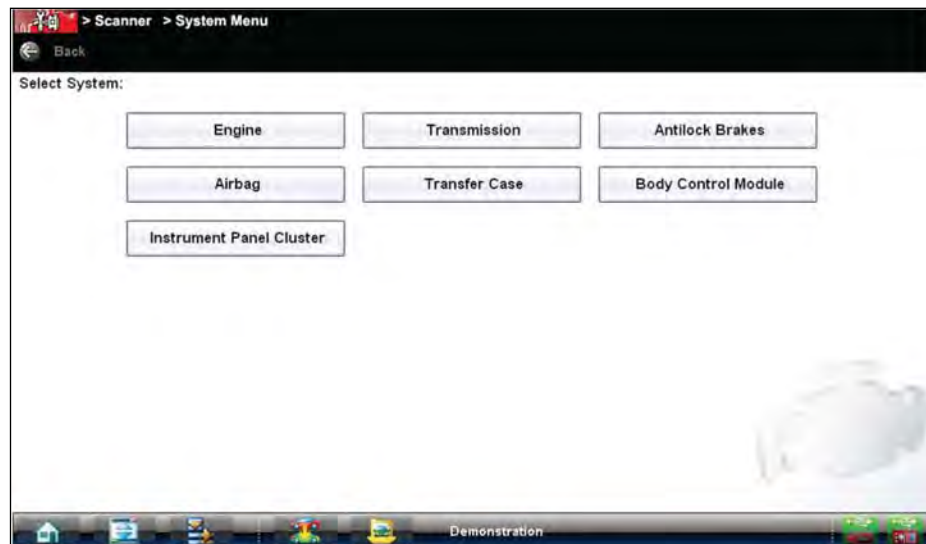

Figure 4-18 Systems menu
1. After the vehicle has been identified, a list of available systems for testing displays (Figure 4-18). Select a system to continue.